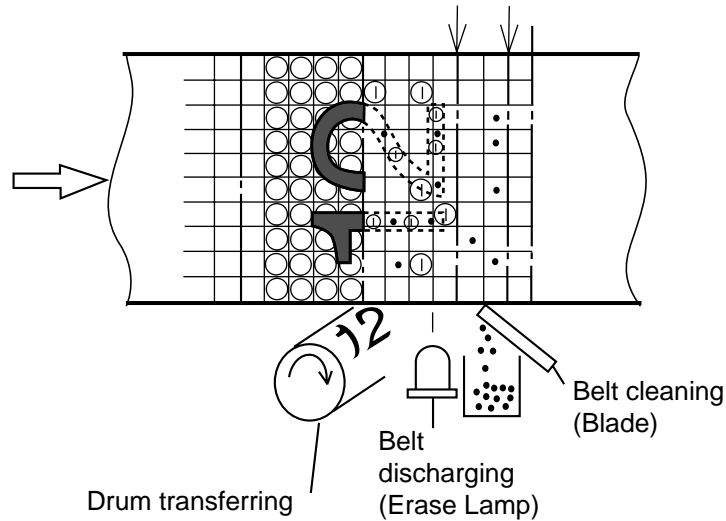

Fig.4-19
- (2) Process of Discharging (Refer to Fig.4-19.)